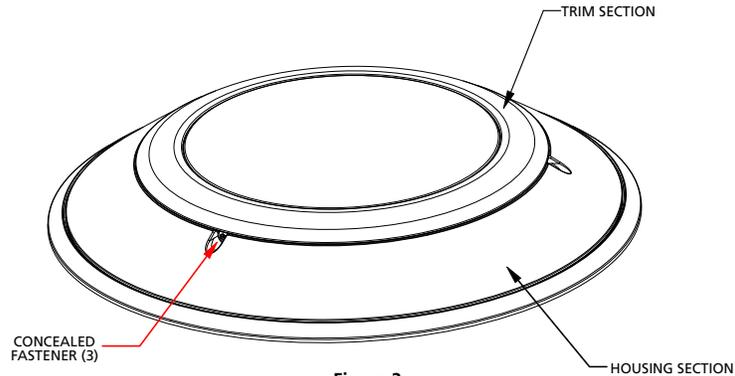

Figure 2
- Using a T20 Torx® tamper-resistant bit, loosen concealed fasteners (3) securing the trim section to housing section and lift off trim section. Place trim section in a location where it will be safe from accidental damage and debris. See Figure 2.